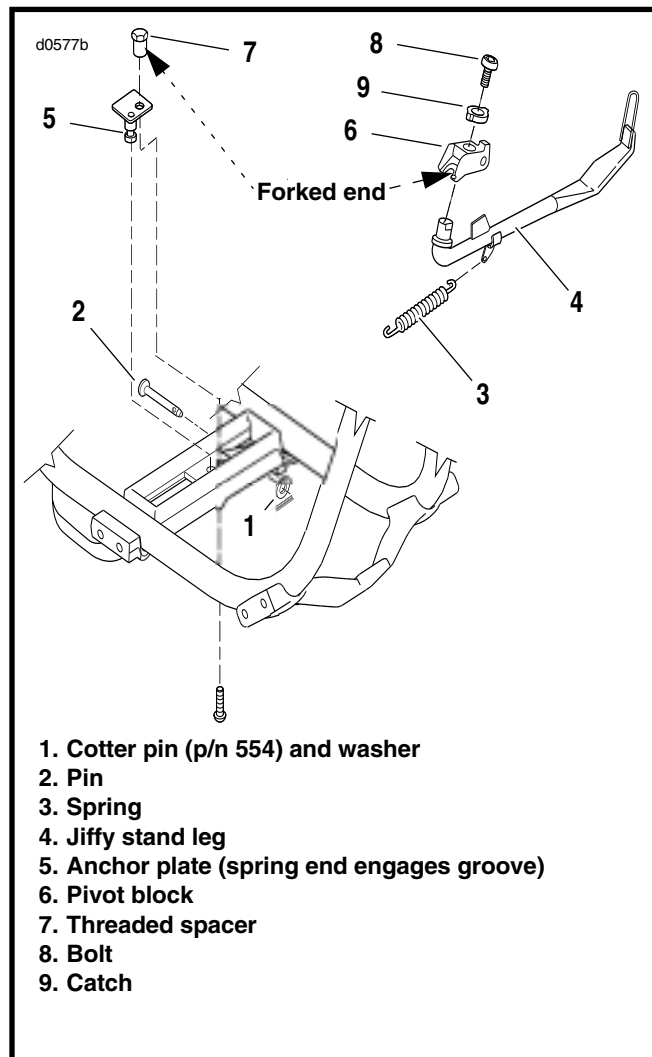

Figure 1. Jiffy Stand
2. See Figure 1. Remove cotter pin and washer (1) from pin (2). Discard cotter pin.
3. Detach spring (3) from jiffy stand leg (4) and anchor plate (5).
4. Pull pin (2) from frame crossmember. Lower and pull jiffy stand leg and pivot block components outboard to disengage forked end of pivot block (6) from tubular section of threaded spacer (7).
1. See Figure 1. Insert pivot block (6) and jiffy stand (4) assembly through opening in frame crossmember and engage forked end of pivot block (6) on tubular section of threaded spacer (7).
2. Spray LOCTITE AEROSOL ANTI-SEIZE on pin (2) and insert the pin from direction shown through frame crossmember and hole in pivot block (6). Secure with washer and a **new** cotter pin, Part No. 554, from your stock.
3. Attach spring (3) to anchor plate (5) and jiffy stand leg. When properly installed, hook on spring end connected to jiffy stand leg faces upward.